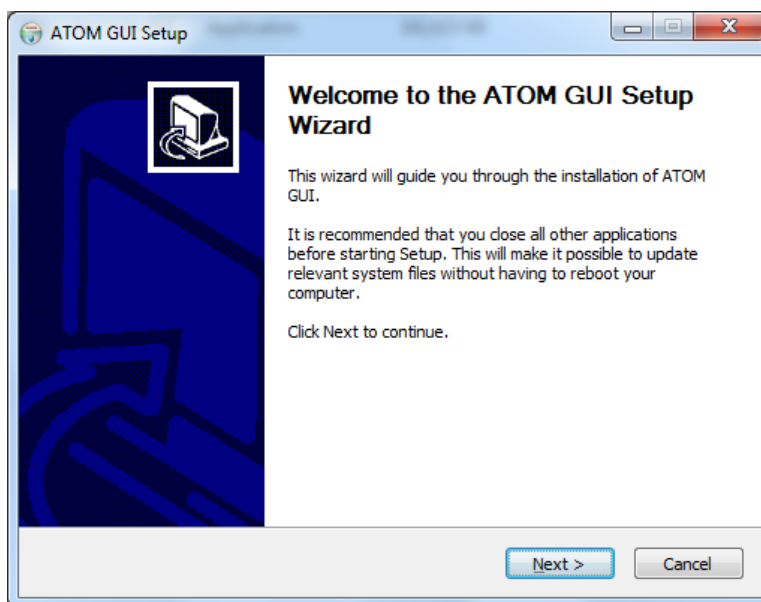

Figure 3.11
2. On the start screen that comes up, click **Next** (Figure 3.11)